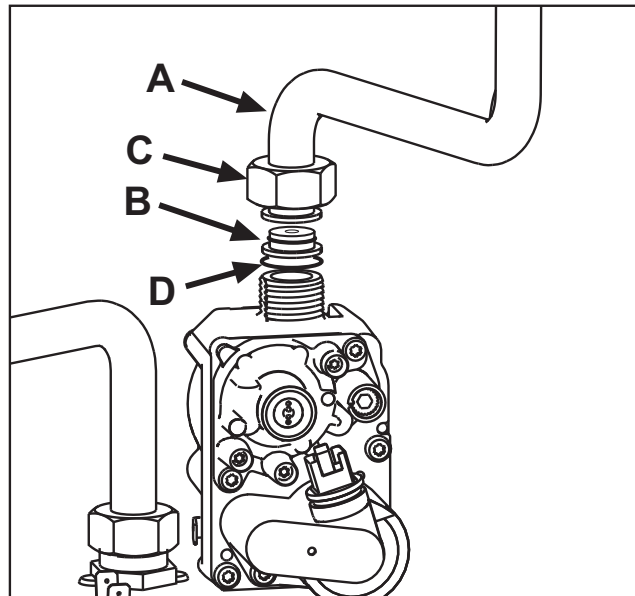

fig. 22
4. Unscrew ring C and remove gas pipe A from the gas valve (see fig. 22).
5. Replace nozzle B inserted in the gas pipe with that contained in the conversion kit, interposing seal D (see fig. 22).